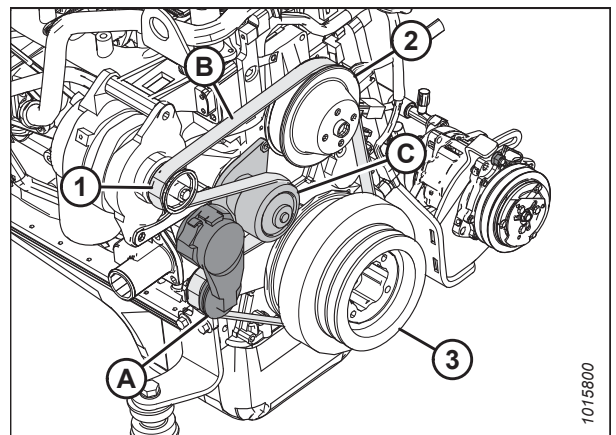

Figure 5.169: Engine Belt
5. Insert the drive end of a 1/2 in. drive ratchet wrench into belt tensioner (A).
6. Rotate tensioner counterclockwise until fan belt (B) can be slipped off pulley (C). Release the tensioner and remove the wrench.
7. Remove the belt in order 1, 2, 3, as shown in Figure 5.169, page 341.
8. Insert the drive end of a 1/2 in. drive ratchet wrench into belt tensioner (A).
9. Rotate the tensioner counterclockwise until belt (B) can be slipped onto pulley (C). Release the tensioner and remove the wrench.